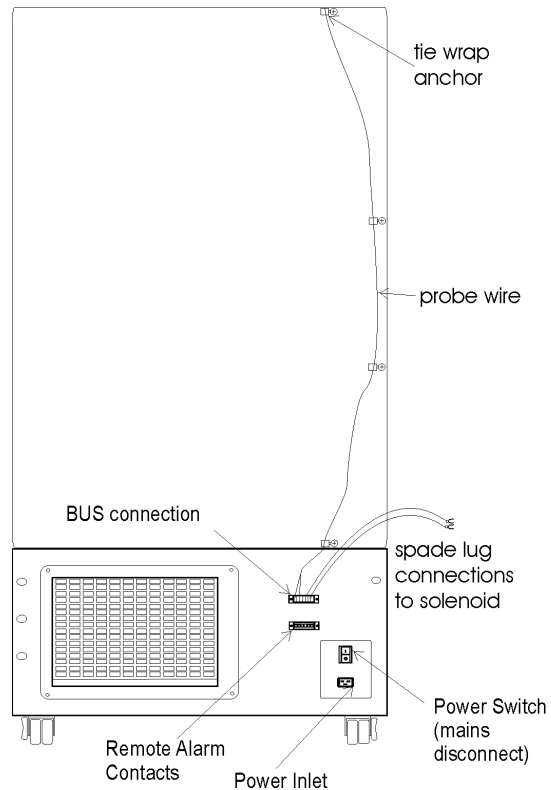

Figure 5-5
- Remove the four screws on the freezer back panel and use them to mount the tie wrap anchors as shown in Figure 5-5. Secure the probe wire with tie wraps.